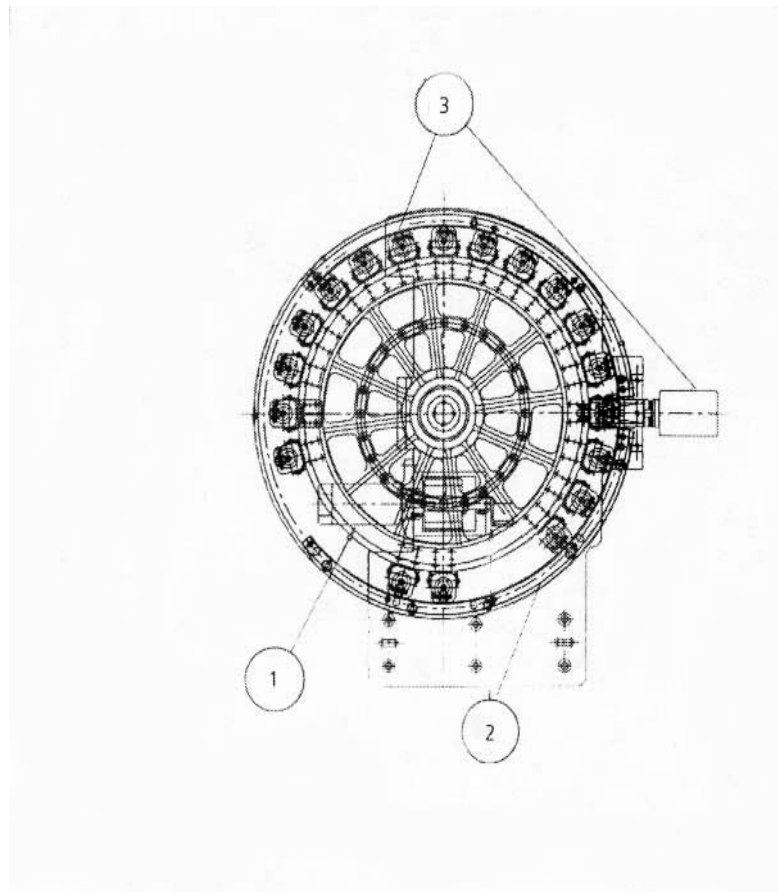

Figure 5-17 Tool Turret
- 9) Install and tighten the gripper with the proper tool orientation (or position) key. See Figure 5-17, positions 1, 6, and 7.
smoothly. The switch is located on top and to the front of the ATC motor (the switch must be held up). See Figure 5-17, position 3.
- 14) To install the tool holder manually, it will be necessary to push the plunger mechanism down, to release the pressure of the tool holding rod. See Figure 5-17, positions 2 and 3.